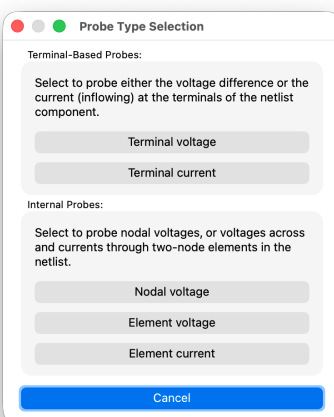

Figure 7: Netlist probes selection window
- 10** From the **Probe** tab of the netlist window, it is possible to add probe signals to the netlist component. Clicking on the “+” icon opens the menu shown in Fig. 7.
- 8** From the **Probe** tab of the netlist window, it is possible to add probe signals to the netlist component. **Clicking** on the “+” icon opens the menu shown in Fig. 7.